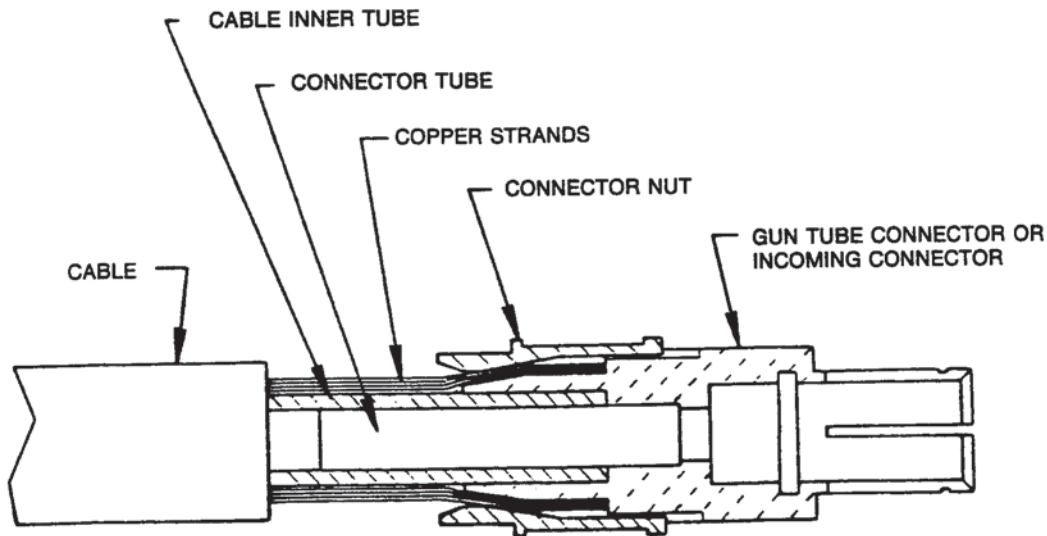

FIGURE 3
- g. Check that the cable boot and both halves of the strain relief are on the cable. Slip the connector nut over the copper strands with the thread end out. Orient gun tube connector so machined flat is on the same side of the cable as the red and white control leads. Assemble gun tube connector to cable by forcing the steel tube of the connector into the inside diameter of the cable inner tube until the copper strands are butted against the gun tube connector shoulder. Keeping the copper strands against the shoulder, pull the connector nut over the copper strands, engage the gun tube connector threads, and tighten in place. Refer to Figure 3.
h. Check that the cable boot, boot nut, cable handle, and collar nut are on the cable. Slip the connector nut over the copper strands with the threaded end out. Orient the connector assembly so the red and white control leads will have the straightest possible routings to the sockets on the back side of the connector. Assemble the incoming connector to the cable by forcing the steel tube of the connector into the inside diameter of the cable inner tube until the copper strands are butted against the incoming connector solder. Keeping the copper strands against the shoulder, pull the connector nut over the copper strands, engage the incoming connector threads, and tighten in place. Refer to Figure 3.